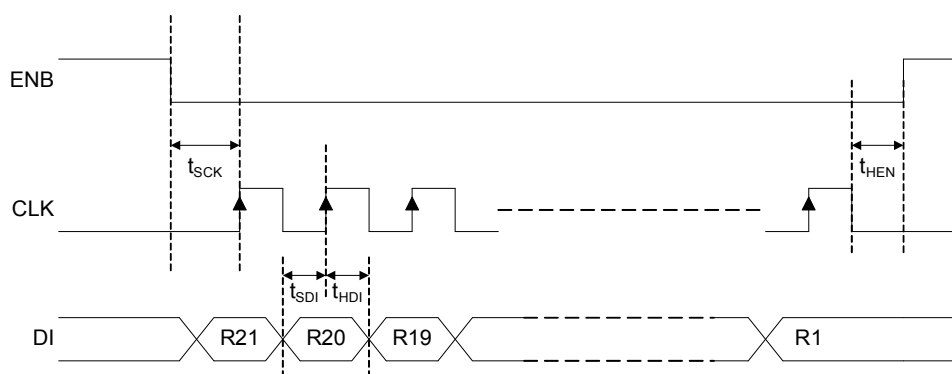

FIGURE 28. TIMING DIAGRAM FOR PROGRAMMING THE INTERNAL REGISTERS OF THE QLX4600-S30
Pins 16 (DI), 45 (ENB), and 46 (CLK) are used to program the registers inside the QLX4600-S30. Figure 28 on page 17 shows an exemplary timing diagram for the signals on these pins. The serial bus can be used to program a single QLX4600-S30 according to the following steps: